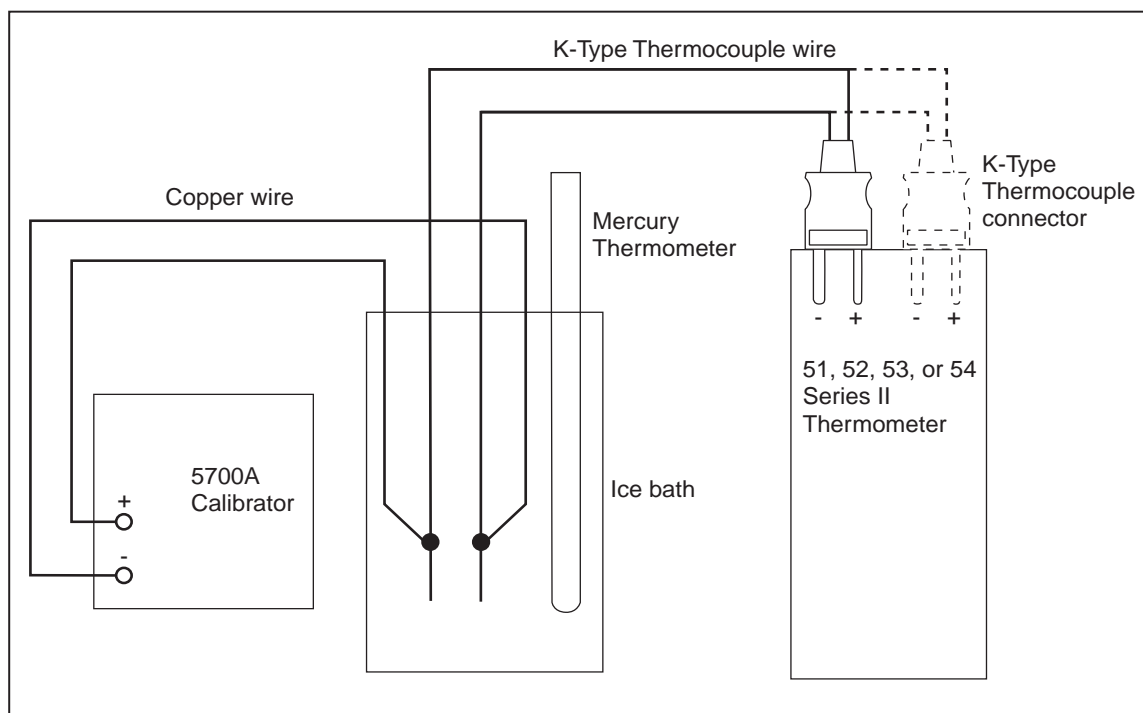

Figure 2. Ice Bath Test Equipment Connections
- Replace the Dewar Flask cap or cork, and insert the thermocouple wires and Mercury thermometer as shown in Figure 2. Insert the Mercury thermometer to the same depth as the thermocouple wire.
- Connect the equipment as shown in Figure 2. Allow the setup to thermally stabilize at least 5 minutes after inserting the thermocouple into the thermometer.
2. Reference junction calibration, using the ice bath test set up shown in Figure 2.
2. Referring to Figure 2, connect the equipment to T1 using K-type thermocouple wire and a K-type thermocouple connector. Allow the setup to thermally stabilize at least 5 minutes after inserting the thermocouple connector into the thermometer.